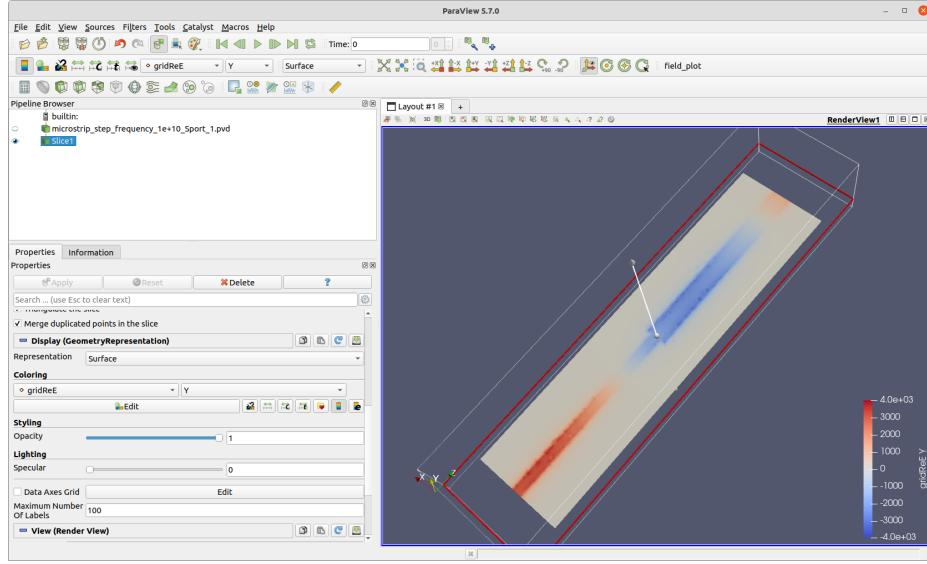

Figure 15: Screenshot of  $\text{Re}(E_y)$  just under the microstrip lines.
- A screen shot of the resulting  $\text{Re}(E_y)$  field just under the microstrip traces is shown in Fig. 15.